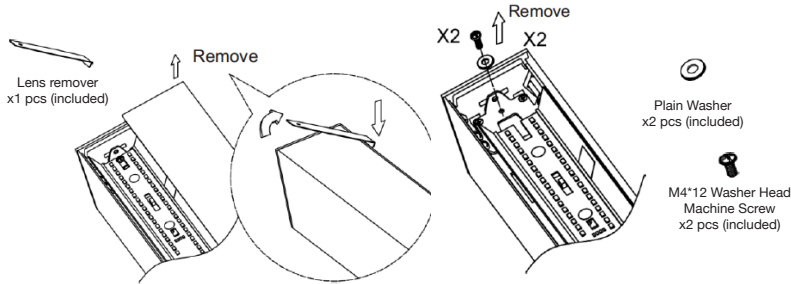

Fig. 8.1
1. Remove the lens and LED reflector strip. (Fig. 8.1)